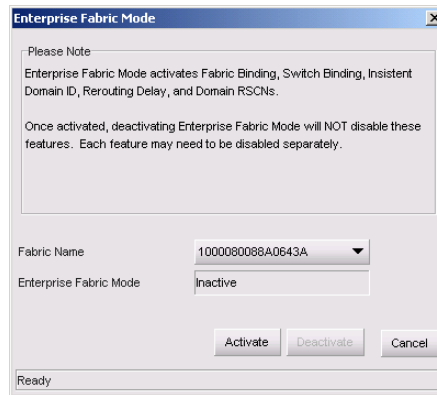

Figure 52: Enterprise Fabric Mode Dialog Box
- a. Minimize the *Element Manager* application to display the SAN management application, then select **Enterprise Fabric Mode** from the **Configure** menu. The **Enterprise Fabric Mode** dialog box displays (Figure 52).